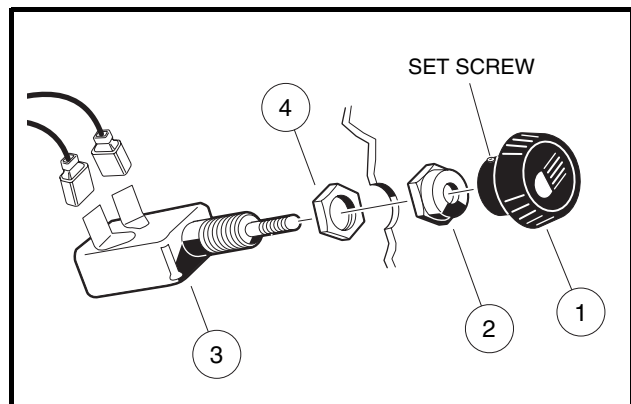

Figure 12-30 Light Switch
3. Loosen the set screw locking the light switch knob (1) to the shaft (**Figure 12-30, Page 12-27**).
6. Remove the outer nut (2) from the light switch (3) and remove.
2. Thread the check nut (4) onto the switch until an equal number of threads show on both sides. Install to the dash panel with nut (2) on the outside of the dash and tighten the nut to 14 in-lb (1.6 N·m) (**Figure 12-30, Page 12-27**).